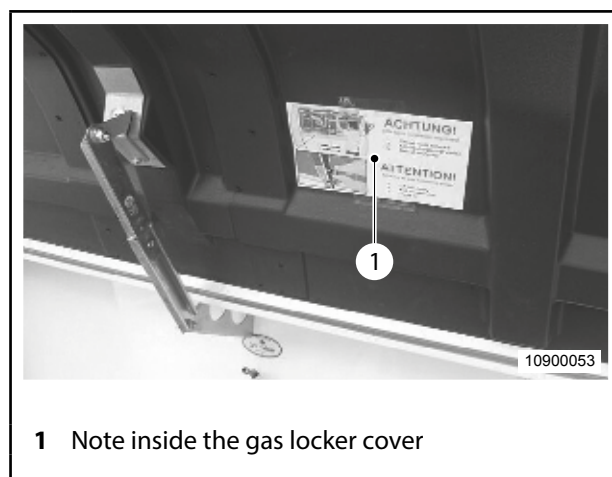

Fig. 40 Note inside the gas locker cover
Observe the following note on the inside of the gas locker cover (Fig. 40, item 1) when closing it.